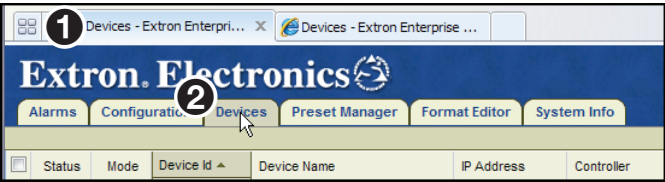

Figure 127. First Tab, Devices Selected
22. Click **Save** (❸), to save the resolution.
23. Click the left tab (see figure 127, ❶).